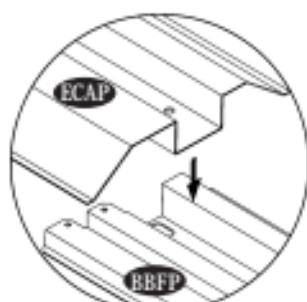

Fig.1
12. Place the entrance taper channel (ECAP) on top of the (BBFP). Secure with (S1) screws to the foundation. See fig. 1 & 2.